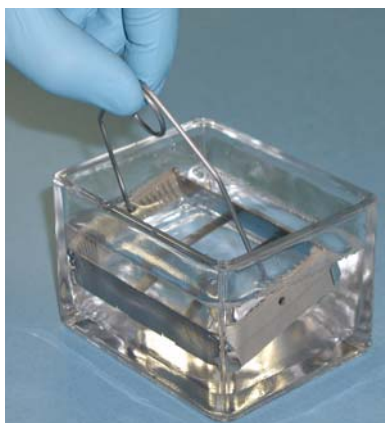

Figure 43 Wash Rack in Wash Dish Containing WB1
1. Attach the wire handle to the rack and submerge the wash rack in the wash dish containing 200 ml WB1 (Figure 43).